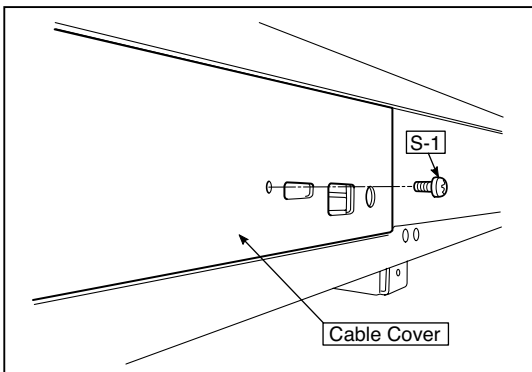

Fig.1
1) Remove the Main Board Assy. (See Figs. 1 and 2.)
1.Remove the”S-1” screws shown in the figure 1 and then remove the Cable Cover.